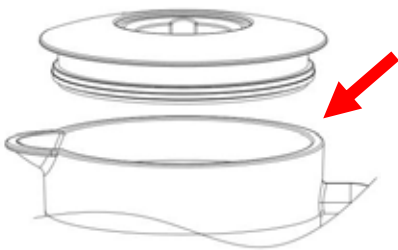

Fig.6
2. Place the food to be blended into the jar (See Fig.6). Usually, certain amount of purified water has to be added to facilitate the smooth running of appliance. The proportion of the food and water is 2:3. The amount of mixture should not exceed the max level as indicated on the jar.